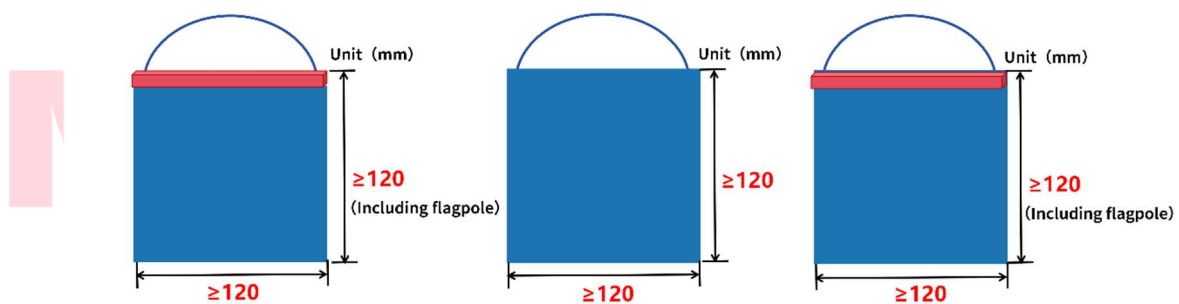

Fig 5.2 Protective Flag
- The structure and shape of the flag should be referred as the Fig5.2. It must be a regular-shaped flag; Shaped flags cannot be produced and used.